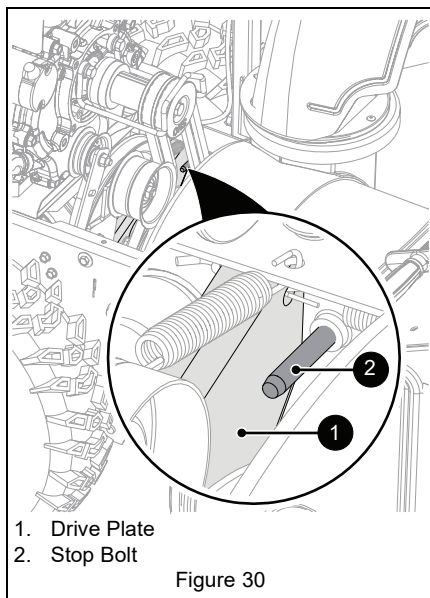

Figure 30
4. With traction clutch disengaged, check that the drive plate touches the stop bolt. See Figure 30.